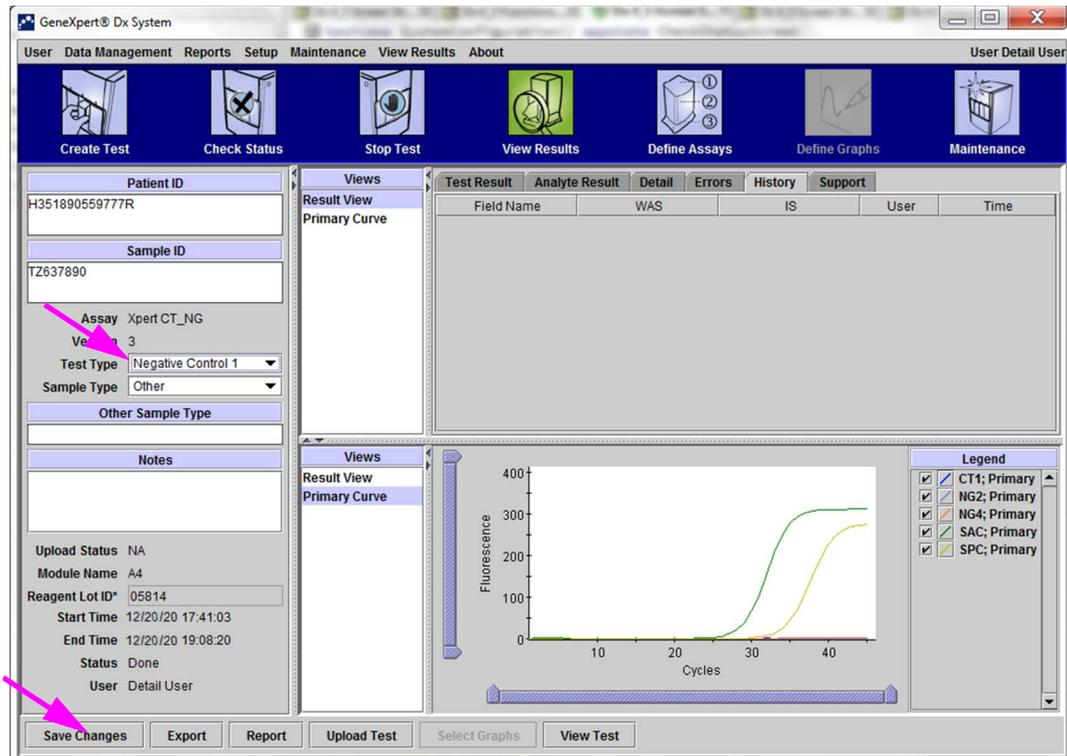
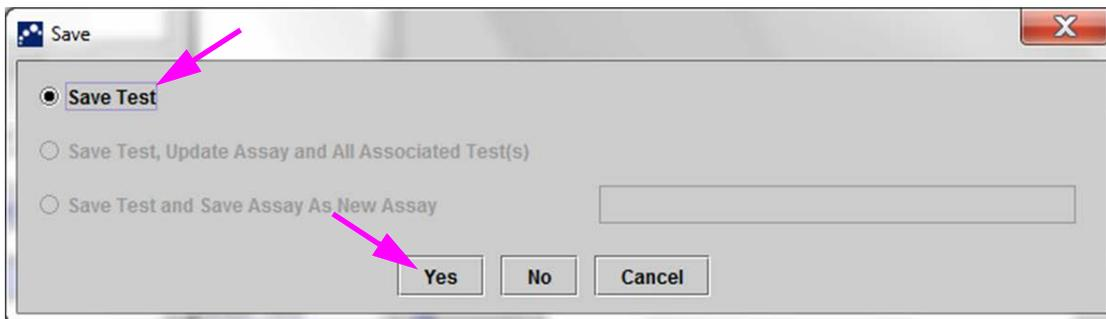

Figure 5-50. GeneXpert Dx View Results Window—Test Type Changed
Figure 5-51. Save Dialog Box
3. Change Test Type to Negative Control as shown in Figure 5-50.
- Click the **Save Changes** button located at the bottom of the View Results window (see Figure 5-50). The Save Test dialog box appears. See Figure 5-51.